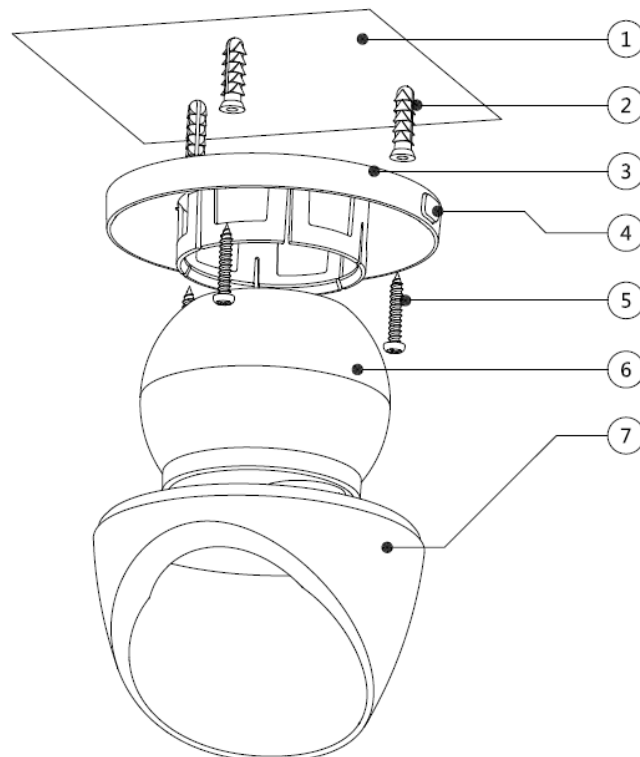

Figure 4-1
- Model A: Press ④ shown in Figure 4-1 to make the pedestal open. Press the dome cover location below the outlet exit to separate the pedestal from the enclosure.